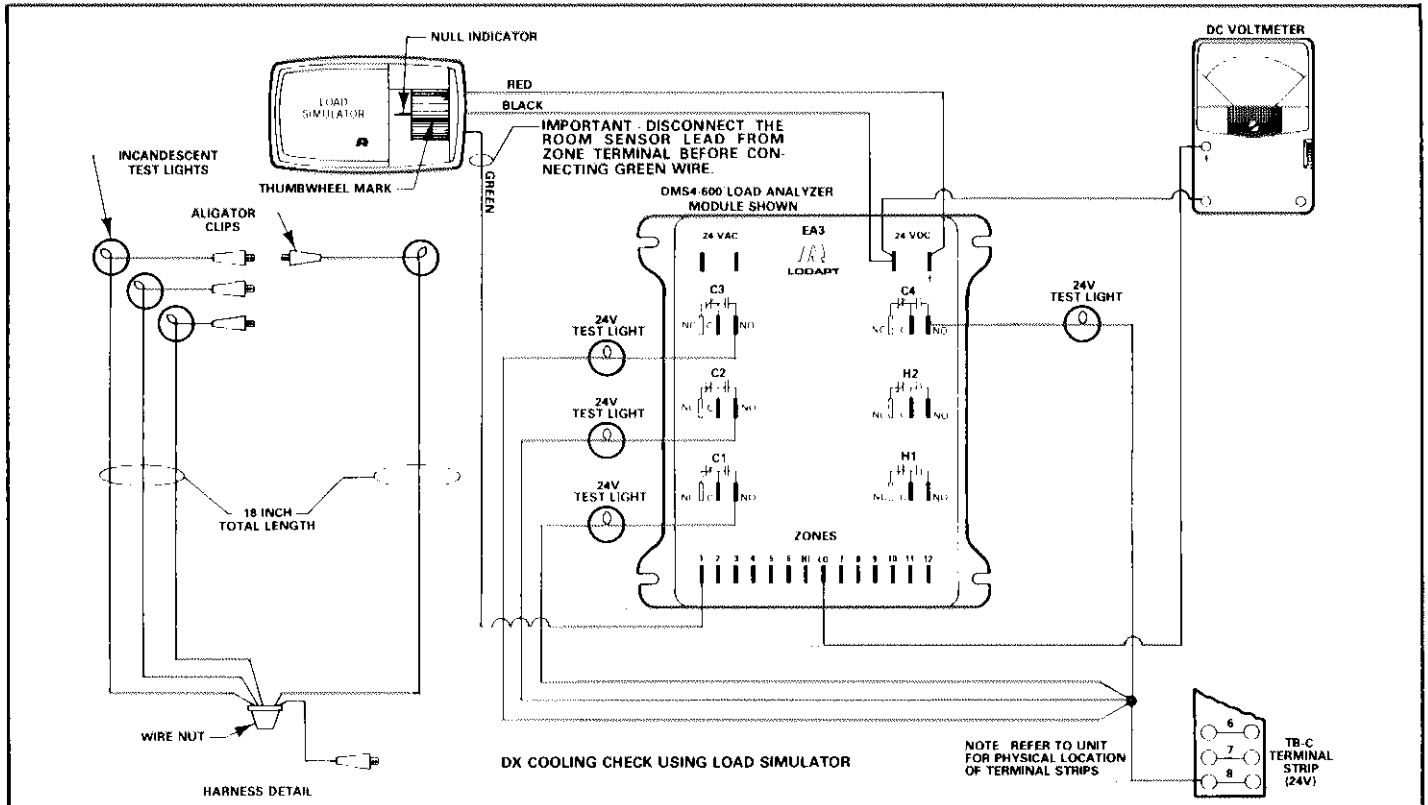

FIGURE 73
- 1 - Connect DC voltmeter negative lead to 24 VDC (—) terminal and positive lead to terminal to obtain cooling command signal. Connect test lights to the cooling logic relays and No. 8 terminal of TB-C terminal strip. For ease in installing test lights, we recommend making a harness as shown in Figure 73.